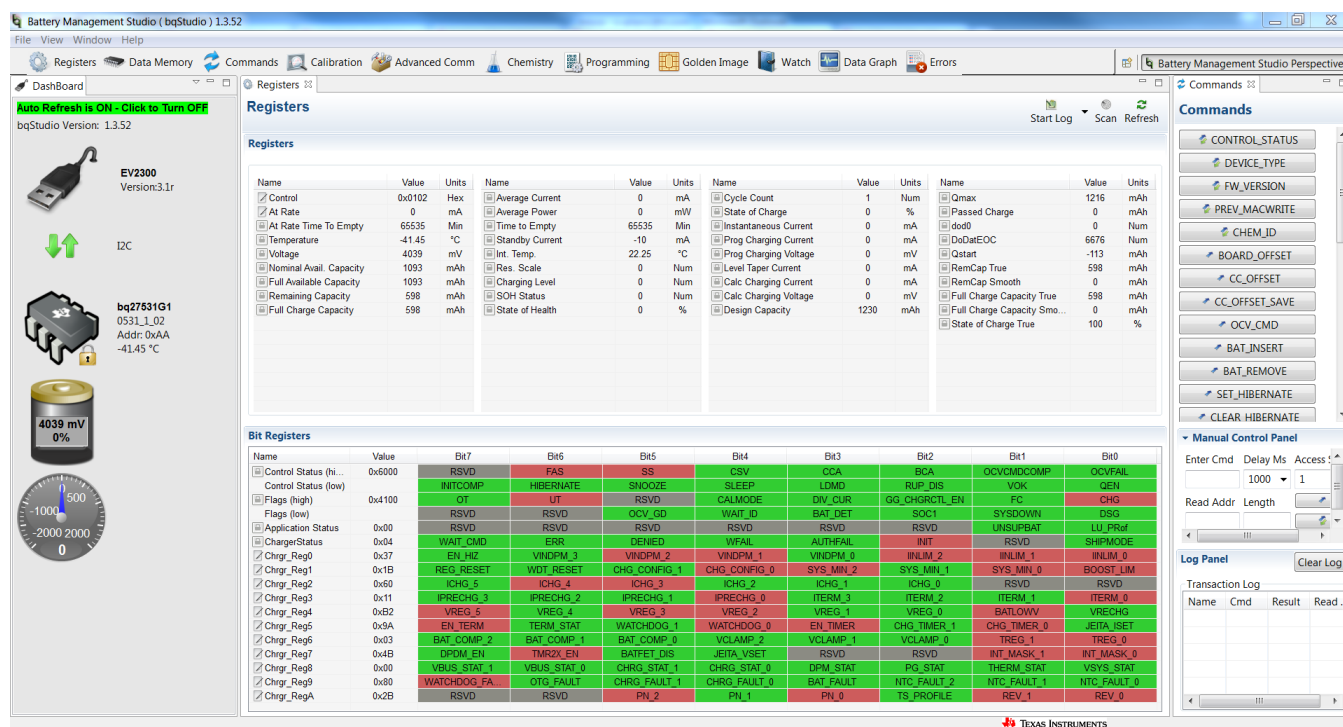
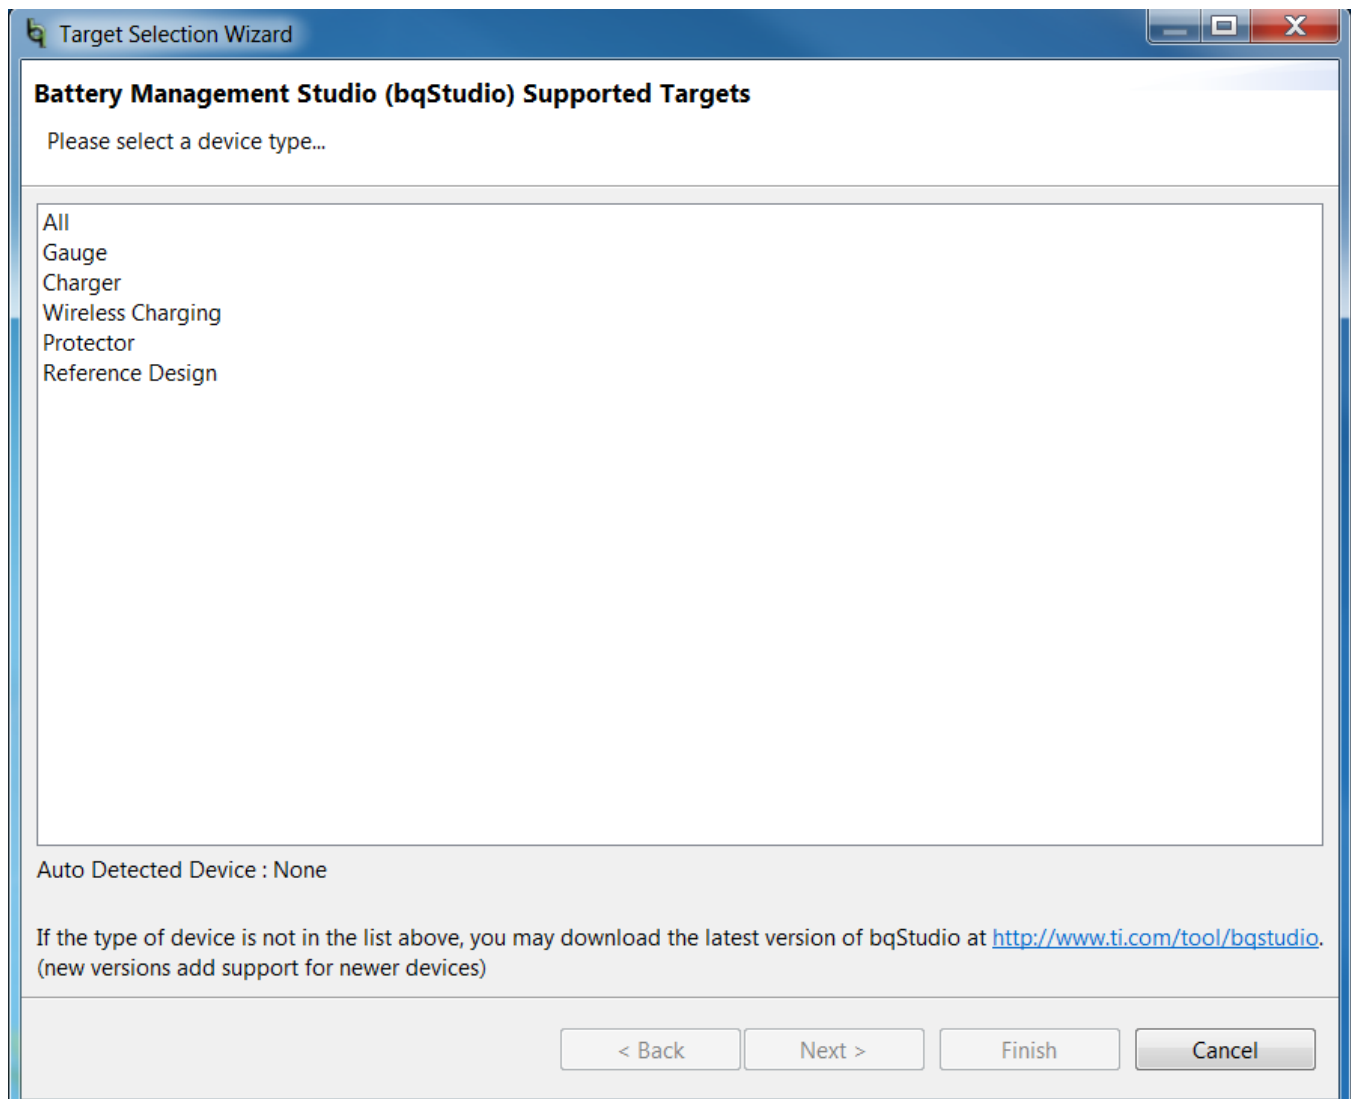

Figure 9. Registers Screen
Figure 10. bqStudio Default Page
- Turn on the computer. Open the bq27531 evaluation software. The main window of the software is shown in Figure 9 (DataRAM Screen).
Run bqStudio from the Start | All Programs | Texas Instruments | Battery Management Studio. The main screen (Figure 9) appears. If instead of Figure 9 appearing, Figure 10 appears, it may mean that the EVM is not connected to the computer correctly. Make sure that the USB interface (EV2300 or EV2400 or GDK) and the bq27531 are connected and restart bqStudio. If this still does not resolve the issue, check if the I2C pullup resistors are connected. Data begins to appear once the <Refresh> (single-time scan) button is clicked, or when the Scan button is clicked. To disable the scan feature, simply click the **Scan** button again.
This screen (Figure 9) shows the RAM data in the bq27531 device. Additional Flags and Status data can be viewed at the bottom of the *Registers* screen.